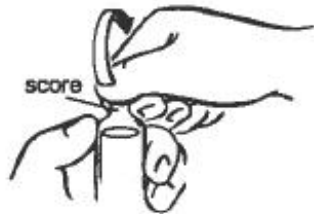

Figure 2. Apply pressure with thumb and forefinger
b. Using the thumb and forefinger of your other hand, apply pressure and break open the ampule neck (Figure 2).